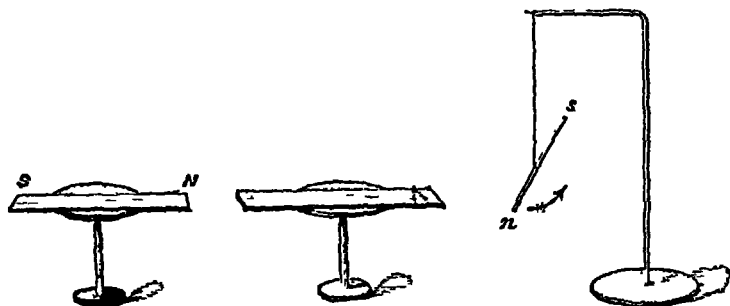

FIG 131
**The poles of a temporary magnet**—Rest a bar of soft iron upon a support, place a bar magnet *SN*, in the same straight line (fig 131), its *N*-seeking pole nearest to the iron. Bring iron filings near the soft iron and show that it attracts them, notice that the
It might be argued that the action upon the magnetic needle is merely the action of the permanent magnet itself. If in fig 131 the soft iron bar be taken away, and the needle be removed so far from the magnet that it is not affected by it, then if a long soft iron bar be placed between the needle and the magnet, the needle is at once affected by the induced magnetism of the iron bar.